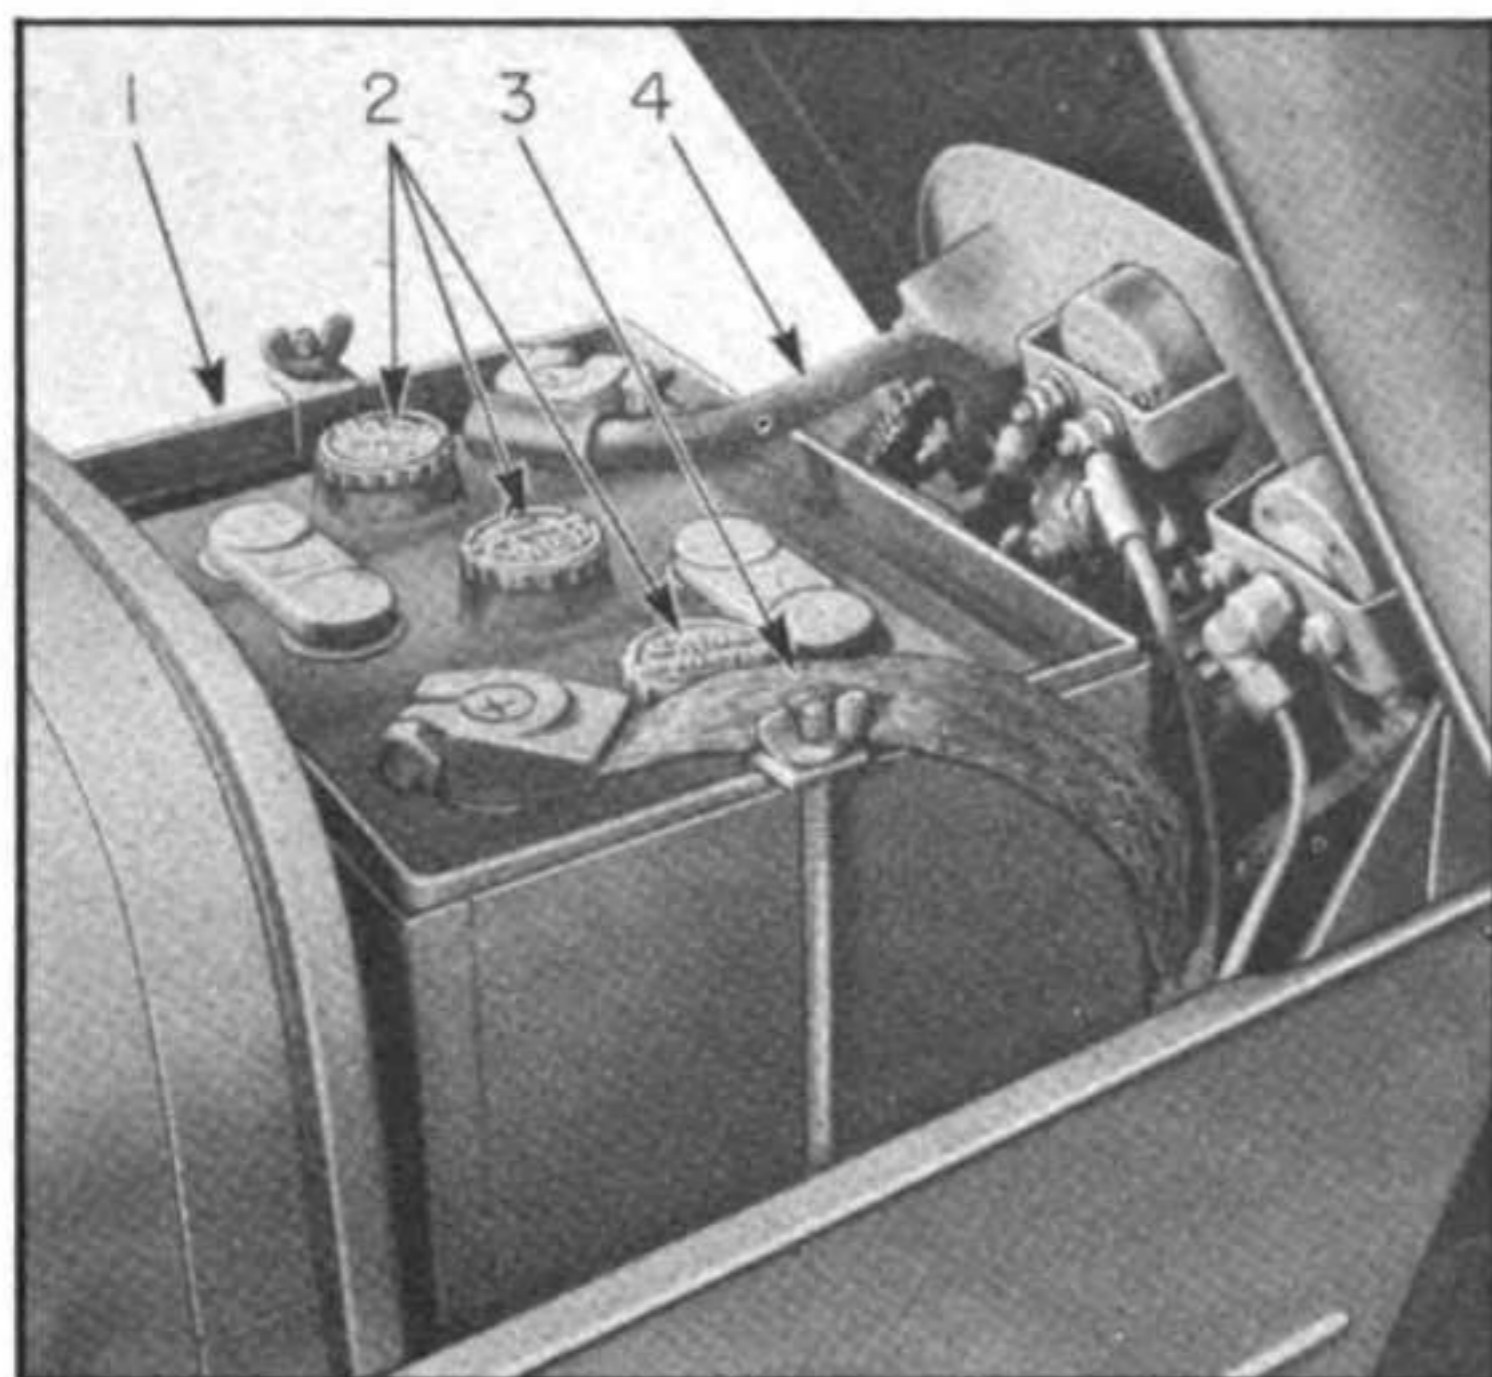

Figure 9 — Battery
(1) **BATTERY ELECTROLYTE LEVEL:** Remove battery caps (Figure 9), and inspect electrolyte. If it is low, replenish with distilled water to a level $\frac{3}{8}$ " above the plates.